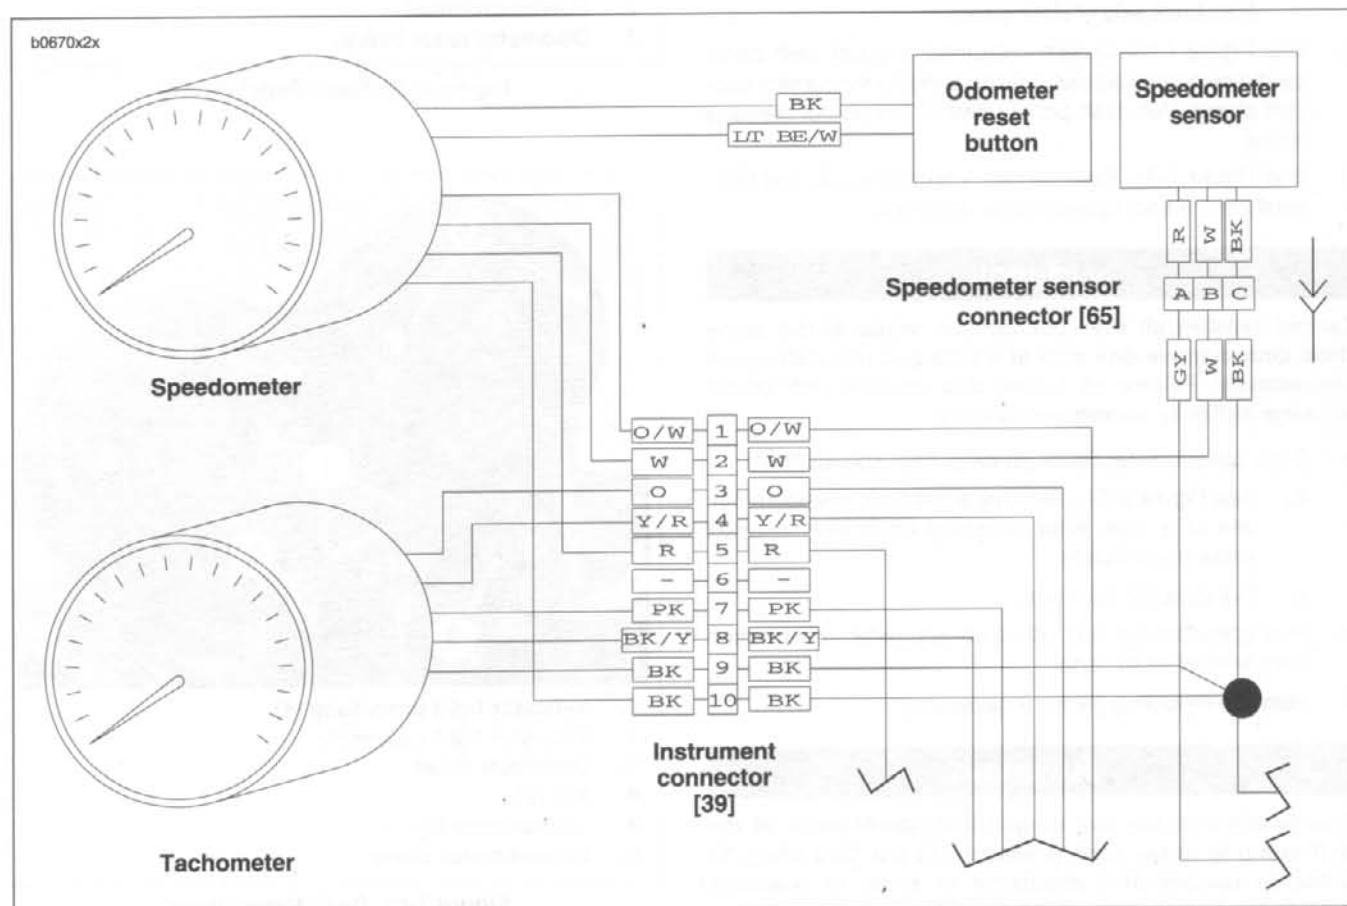

Figure 7-59. Speedometer Sensor Wiring
2. See Figure 7-59. Disconnect 3-place Deutsch connector [65] under battery tray.